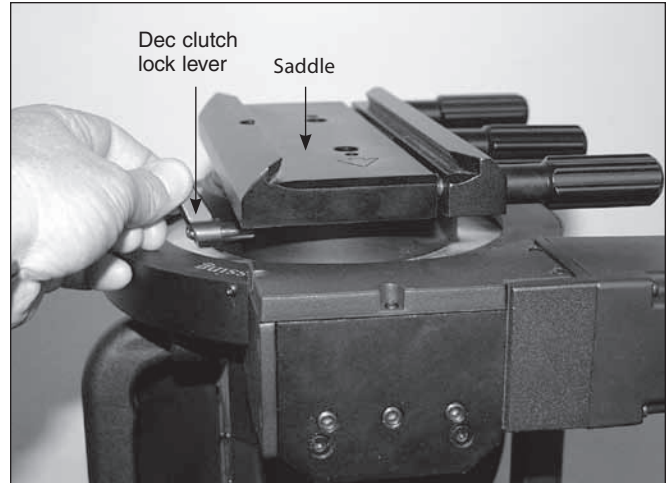

Figure 20: Start with the dovetail saddle in the “default” position, pointing straight ahead.
1. Rotate the saddle of the mount head to its default position and then lock the DEC clutch lock lever as shown in **Figure 20**. Rotate the saddle back and forth to feel how much “play” there is (**Figure 21**, see Note below). This is an indication of how tightly the worm is meshed to the ring gear. It is normal to feel a tiny bit of play. If you don’t feel any movement, not even the slightest jog, the DEC gear mesh may be too tight. If you feel a lot of play, the gears may be too loosely meshed.